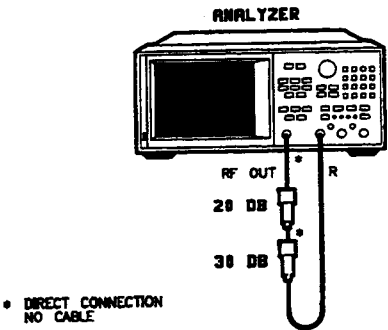

Figure 2. Minimum R Level Test Setup
1. Connect the equipment as shown in Figure 2 and press **[PRESET]**.